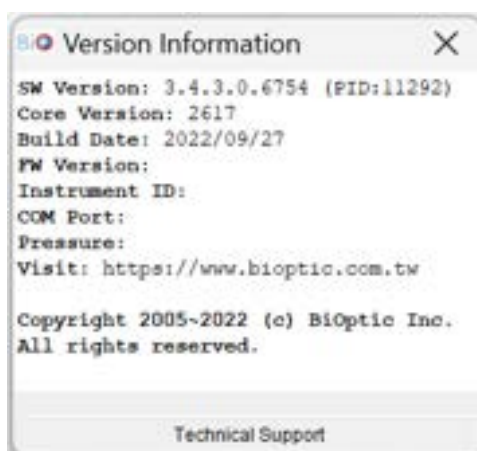

Figure 4-27 Version Window
*Qsep* series needs to be connected to get the information of the firmware (Figure 4-27).